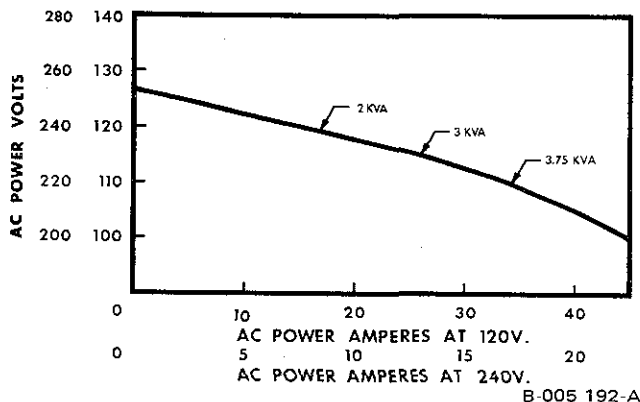

Figure 5-2. AC Power Curve For 120 (And Optional 240) Volts AC Receptacle
The voltage will vary in accordance with the load applied to the 120 VOLTS AC receptacle. The voltage at various loads may be determined from Figure 5-2.
5 - 9. VOLT-AMPERE CURVES (Figure 5-2)
A. Power Curve For Optional 240 VOLTS AC Duplex Receptacle (See Figure 5-2)
The voltage will vary in accordance with the load applied to the 240 VOLTS AC receptacle. The voltage at various loads may be determined from Figure 5-2.